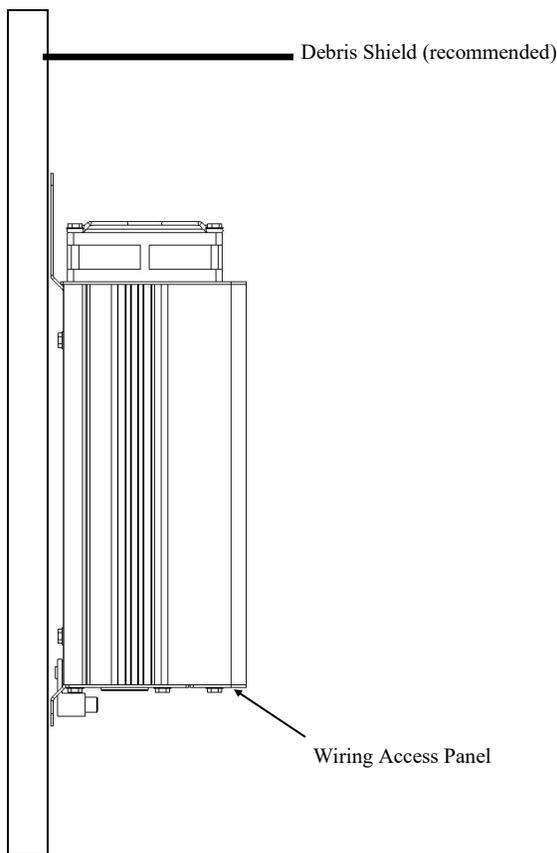

Figure 5 Vertical Mounting Configuration
4. If mounting vertically, mount the PD1600 Series Inverter that the wiring compartment is facing down (see Figure 5). This will ensure that the display will be oriented correctly. It is best to ensure that PD1600 series inverter is placed in an area that keep dust & debris from entering the fan area. Debris may cause unexpected performance issues in your inverter.